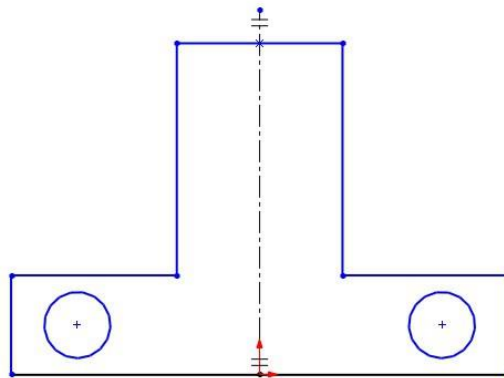

Figure 3-17 *Sketch after drawing circles*
- Create the left side sketch; the sketch will automatically be mirrored on the right side of the mirror line, refer to Figure 3-17.
11. Move the cursor horizontally toward right to draw a circle and click on the left mouse button when the radius of the circle above the cursor shows 10; a circle of 10 mm radius is drawn. Also, a mirror image is created automatically on the right side of the mirror line, refer to Figure 3-17.